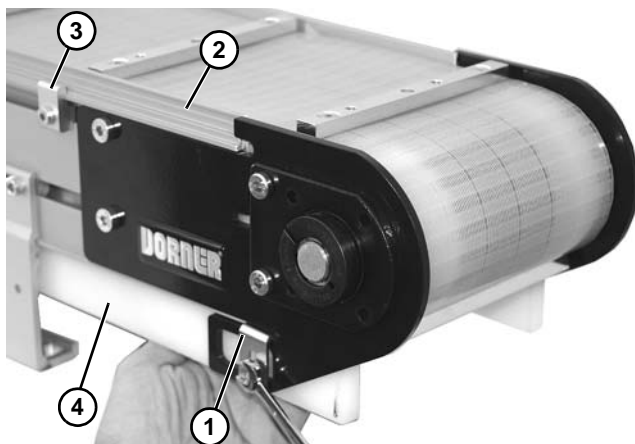

Figure 21
4. For fixture belt conveyors, on the opposite side of the gearmotor remove the UHMW return rail by removing support clip (**Figure 21, item 1**) and guiding (**Figure 21, item 2**) by removing clip (**Figure 21, item 3**) and return rail (**Figure 21, item 4**) on both ends of conveyor).